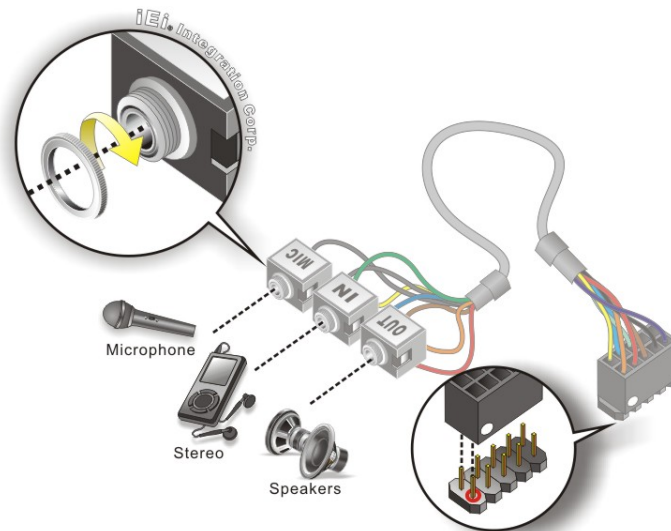

Figure 4-18: Audio Kit Cable Connection
**Step 2: Align pin 1.** Align pin 1 on the on-board connector with pin 1 on the audio kit connector. Pin 1 on the audio kit connector is indicated with a white dot. See Figure 4-18.